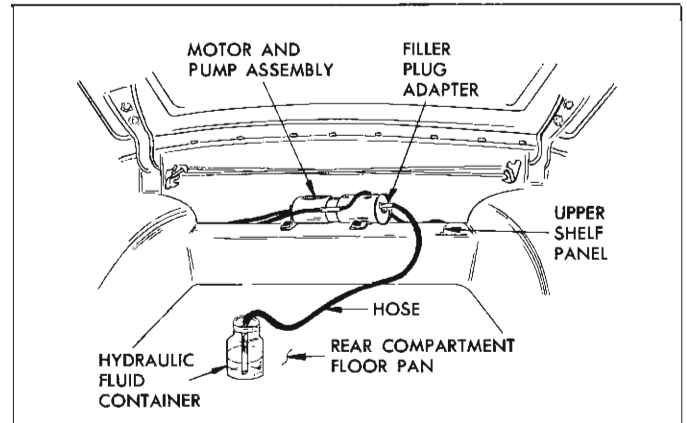

Fig. 83—Filling Hydraulic System
- d. Install opposite end of hose into a container of GM Hydraulic Brake Fluid Super #11 or equivalent. See Figure 83.